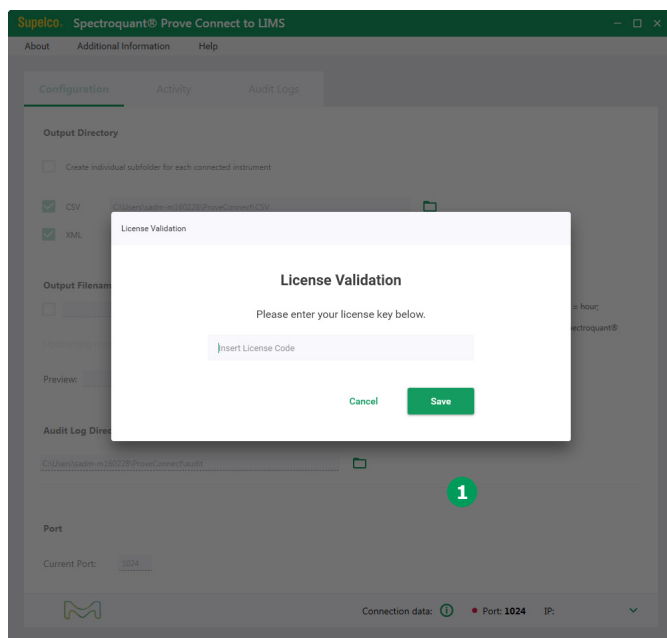

Figure 11 - Welcome screen of Prove Connect to LIMS software at first start asking you to enter the license code
Please enter the license key by copying it from the order confirmation email or download page and click on "Save" ① (Figure 11) to store it. The software is now ready to connect with the Prove instrument(s).